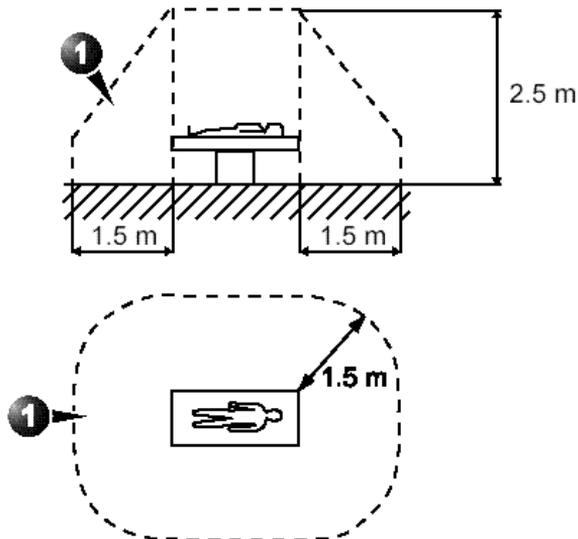

Figure 2-35. Patient Environment
**DO NOT** place an off-line paper printer inside the patient environment (within the dotted line area noted by “1” in Figure 2-35). Refer to the off-board printer’s manufacture manual for details.